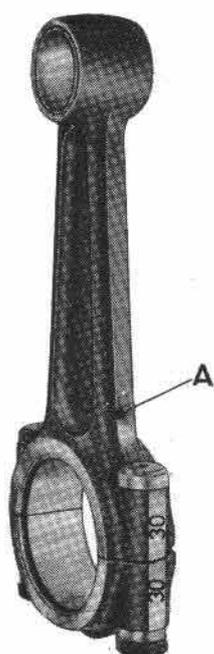

Fig. 38
When fitting up con-rods on crakshaft, pay attention that lubrication ducts in con-rod big ends are set as follows (see A on Fig. 38):
N.B.: Viewing engine from clutch side, number marked on con-rod big end must match with number marked on cap. Both numbers must be on same side (see Fig. 38).